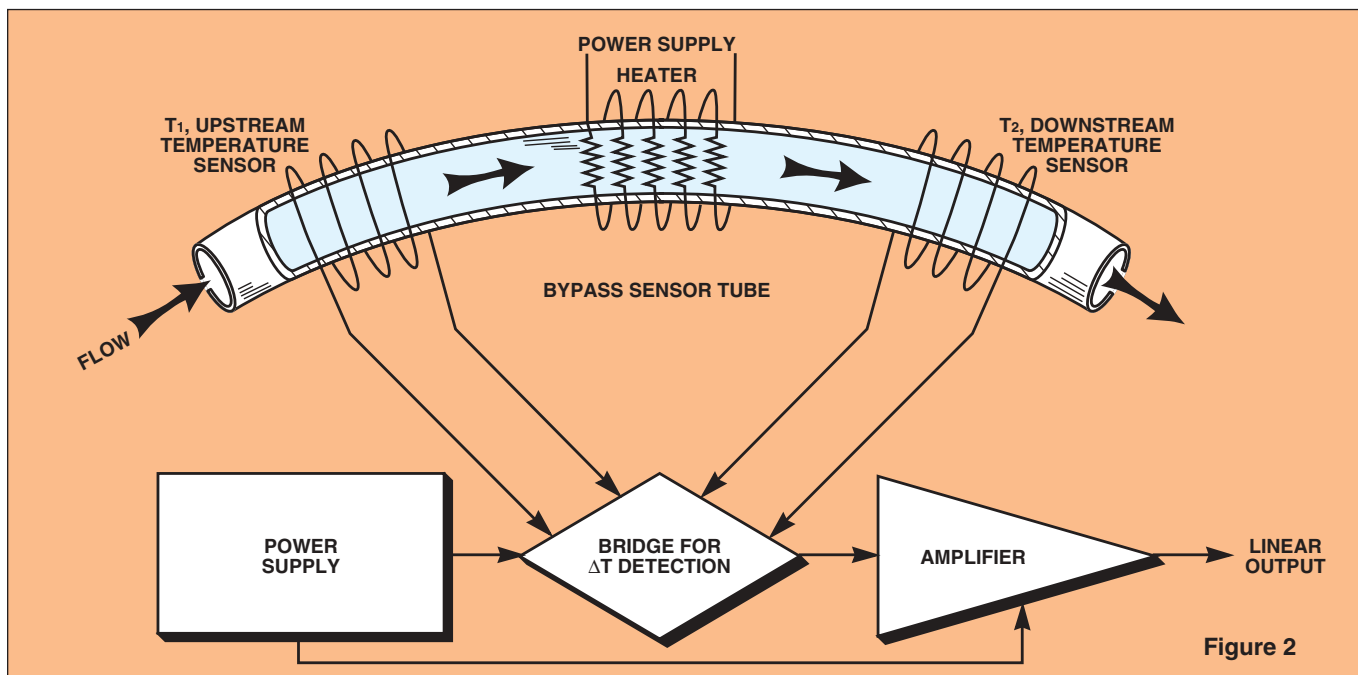

Figure 2
In these units, all or part of the gas flow passes through a precision-manufactured sensing tube (Fig. 2). Heat (Q) is applied to the gas flowing through the sensor tube via two externally wound resistance temperature detectors ( $T_1$  and  $T_2$ ). The detectors have a dual function: to both heat and sense the sensor-tube temperature. When the molecules of the gas pass through the upstream sensor winding ( $T_1$ ) they carry away a certain amount of heat.